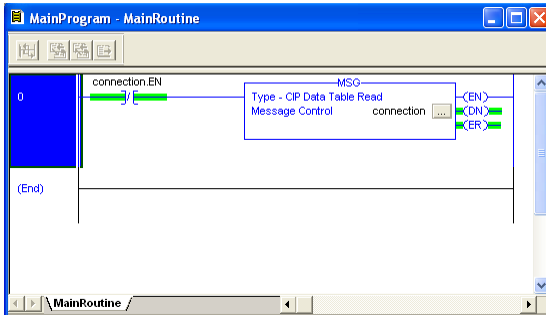

Figure 57: Complete Program
6) The program is now complete. Refer to Figure 57.